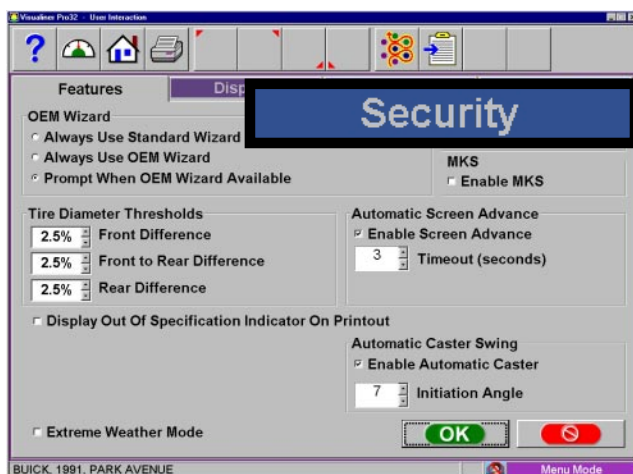

Figure 3-19
3. From the User Interaction menu select the **<SECURITY>** tab. (Figure 3-19)